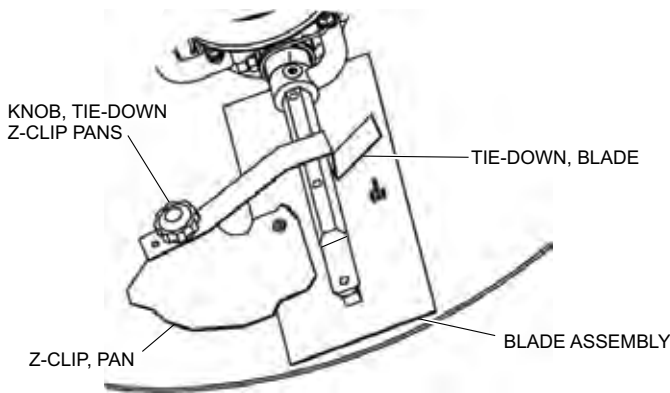

Figure 28. Z-Clip Finisher Pan Installation
Refer to Figure 28 when installing pans onto finisher blades.
3. Attach the blade tie-downs to the far side of the Z-Clip brackets with tie-down knobs as shown in Figure 28.